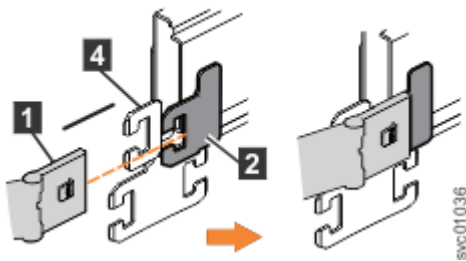

Figure 63. Install the inner connector of the upper CMA to the inner member of the support rail
2. Install the inner connector of the upper CMA assembly (1) to the inner member of the left support rail (2), as shown in Figure 63 on page 59.